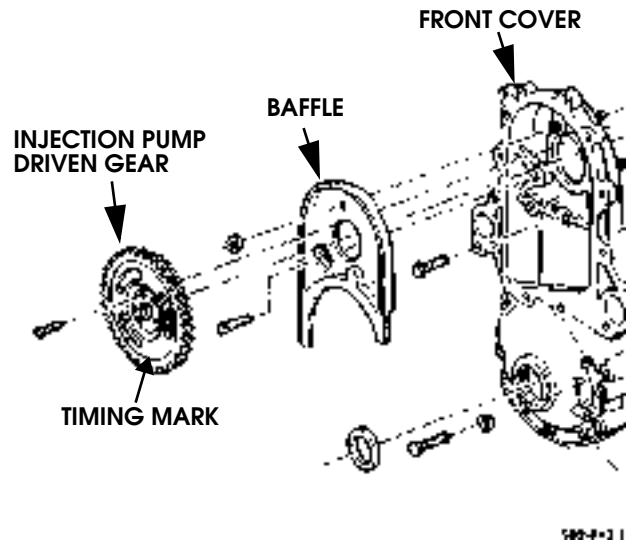

Figure 2-29: Baffle and Pump Driven Gear Installation
11. Install baffle in front cover (Figure 2-29). Maintain minimum clearance of 0.040 in. (1.02 mm) between baffle and injection pump drive gear. Tighten baffle attaching bolts/nuts to 33 lb-ft (45 N•m) torque.